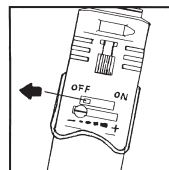

Fig. 8
- Make certain that the on/off button is in the **off** position and that the soldering pen has cooled down before you store it and leave it unattended. See Fig. 8.